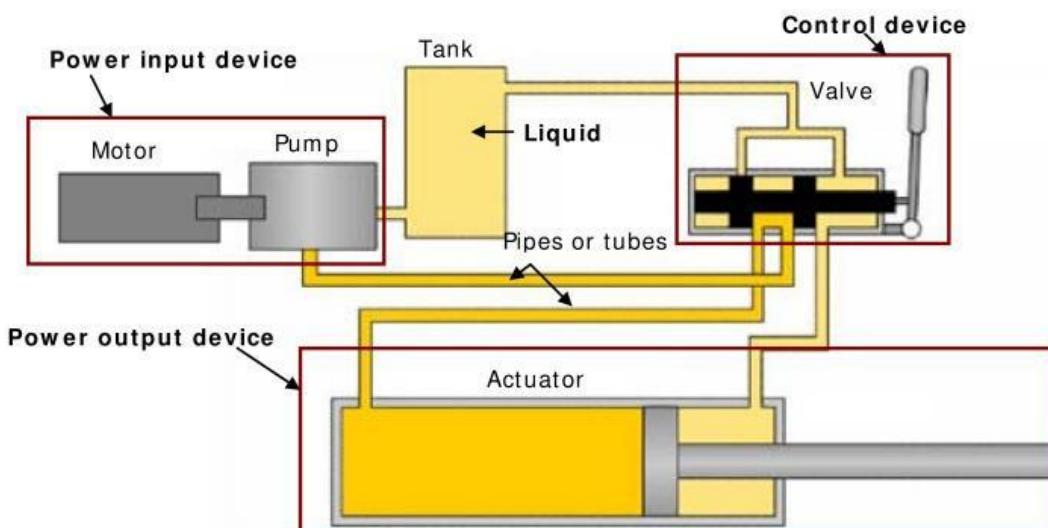

Fig.1.5: The basic components of a Hydraulic system
**1. Power input device:** The pump and motor together are called the power input device; the pump provides power to the hydraulic system by pumping oil from the reservoir/tank. The pump's shaft is rotated by an external force which is most often an electric motor as illustrated in Fig 1.5. **Tip:** “Watch the hydraulic system video”